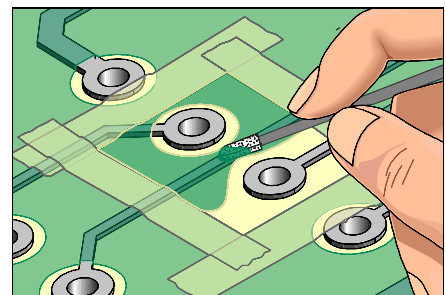

Figure 1: For large surfaces, apply the replacement coating with a foam swab to create a texture.
4. Apply the replacement coating to the board surface as required. A brush or foam swab may be used to apply and spread the epoxy or replacement coating. (See Figure 1).